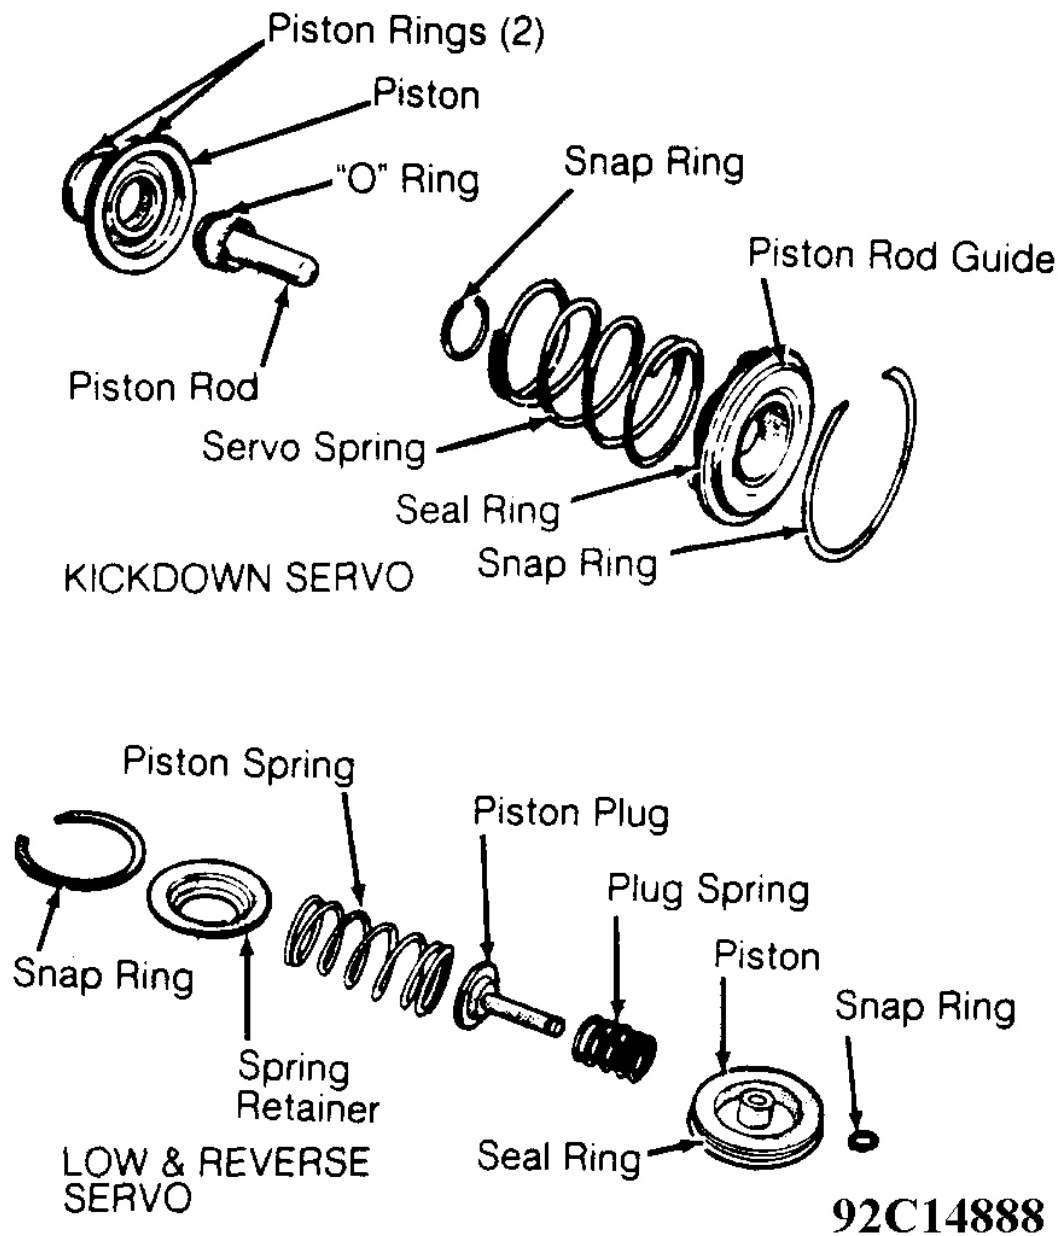

Fig. 13: Exploded View of Servo Assemblies
3. If lining is worn so grooves are not visible at any portion, replace band. Lubricate and insert piston and piston rod, and secure with snap ring. See **Fig. 13** .
Follow service procedures given for **KICKDOWN SERVO & BAND** . Lubricate and assemble as shown in **Fig. 13** .